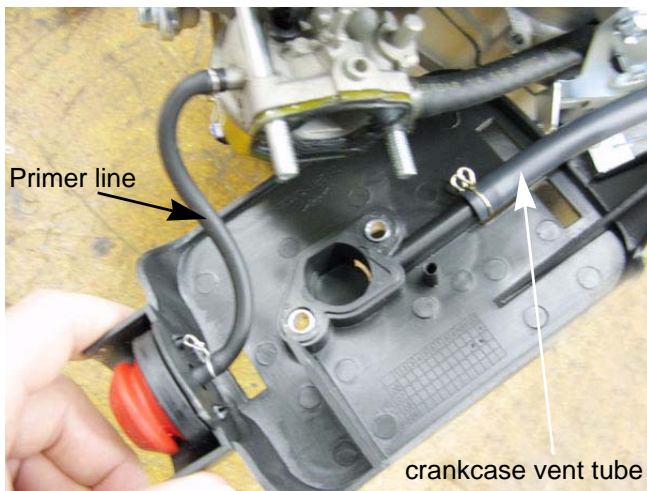

Figure 3.8
4. Disconnect the crankcase vent tube. See Figure 3.8.
5. Disconnect the primer line. See Figure 3.8.